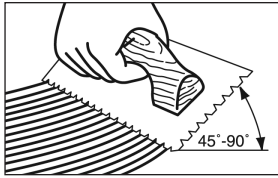

Figure 9
- Hold trowel at a minimum 45° angle (Figure 9) firmly against the subfloor to obtain proper spread rate. The trowel will leave ridges of adhesive and very little adhesive between the ridges. This method will allow you to still see the chalk lines between the ridges and provide the recommended spread rate.